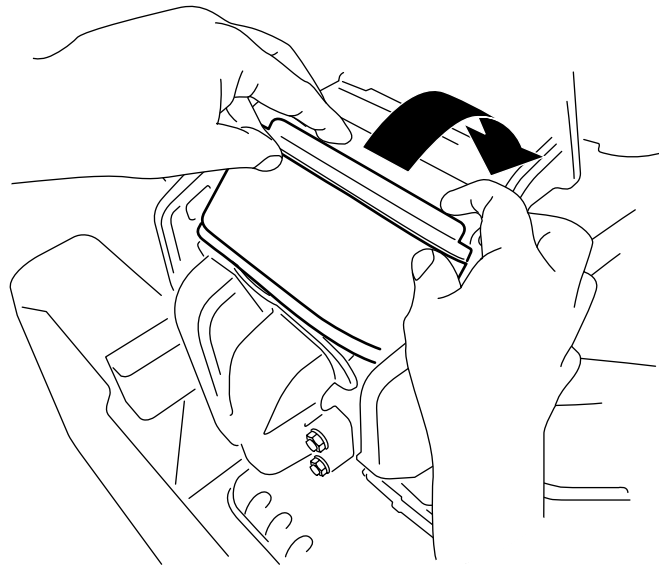

Figure 33
3. Rotate the filter down into the chamber and fully seat it against the manifold (Figure 33).